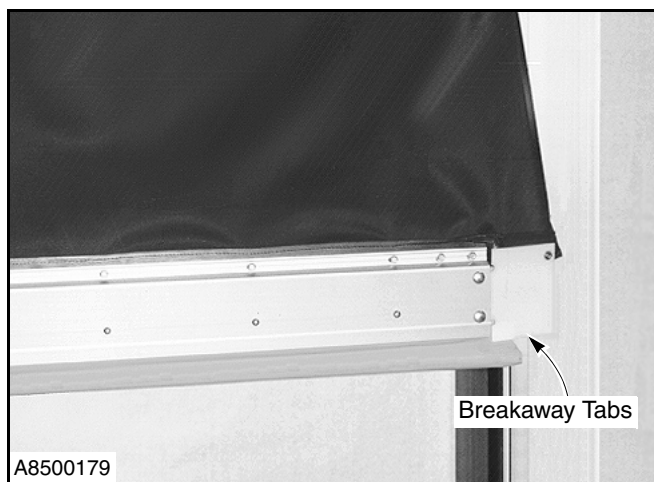

Figure 18
2. Push the breakaway bottom bar out of one of the side columns. (See Figure 18.)